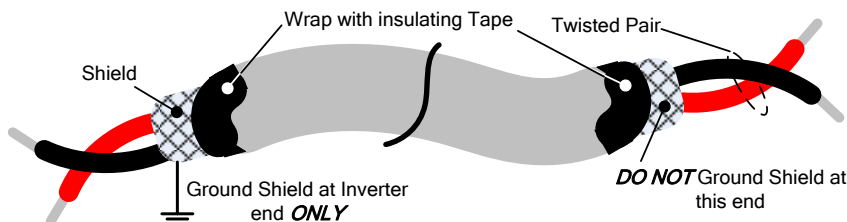

Fig. 3.13.1 Shielded Twisted-Pair
- (1) Separate the wiring for control circuit terminals from main circuit wiring for terminals (R/L1, S/L2, T/L3, U/T1, V/T2, W/T3).
- (2) Separate the wiring for control circuit terminals RA-RB (Relay output) from wiring for terminals S1 – S5, AVI, ACI and AGND wiring.
- (3) Use shielded twisted-pair cables (#24 - #14 AWG / 0.5 -2 mm²) shown in Fig. 3.13.1 for control circuits to minimize noise problems. The maximum wiring distance should not exceed 50m (165 ft).